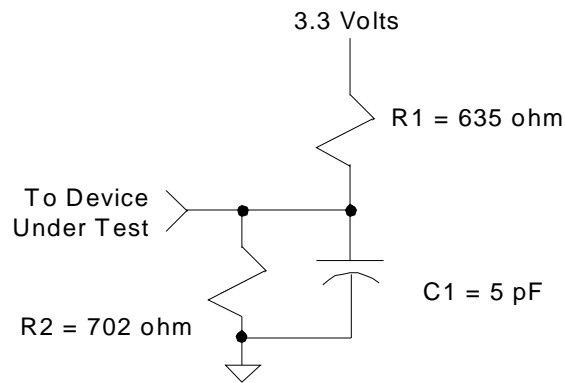

Figure 6: AC Test Load B
7. With loads specified in Figure 6.